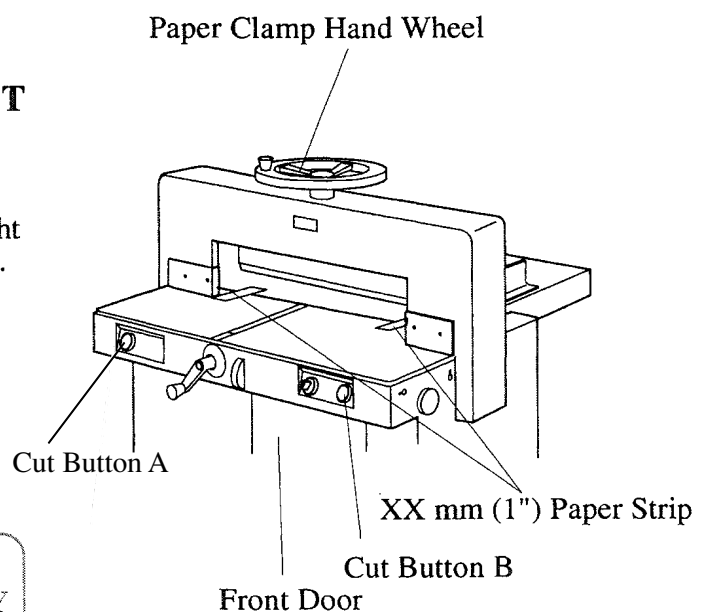
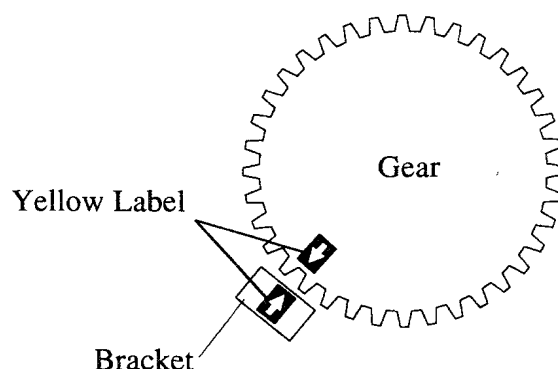

Fig. 5-1
Fig. 5-2
- Place two 30mm (1") strips of paper at right and left side of clamp opening over cut stick. (Fig. 5-1)
- Turn paper clamp hand wheel clockwise until clamp is fully down. (Fig. 5-1)
- Open front doors to be able to check yellow arrow on gear. (Fig. 5-1)
- Using cut buttons A and B (Fig. 5-1) bring knife down until arrow on large gear is in line with arrow or bracket. (Fig. 5-2)
- Test adjustment in automatic cutting mode with two 30 mm (1") strips of paper placed at right and left side of clamp opening over cut stick (Fig. 5-1).
- Test adjustment in automatic cutting mode with two 30mm (1") strips of paper at right and left side of clamp opening over cut stick. Readjust if necessary. (*Fig. 5-1*)